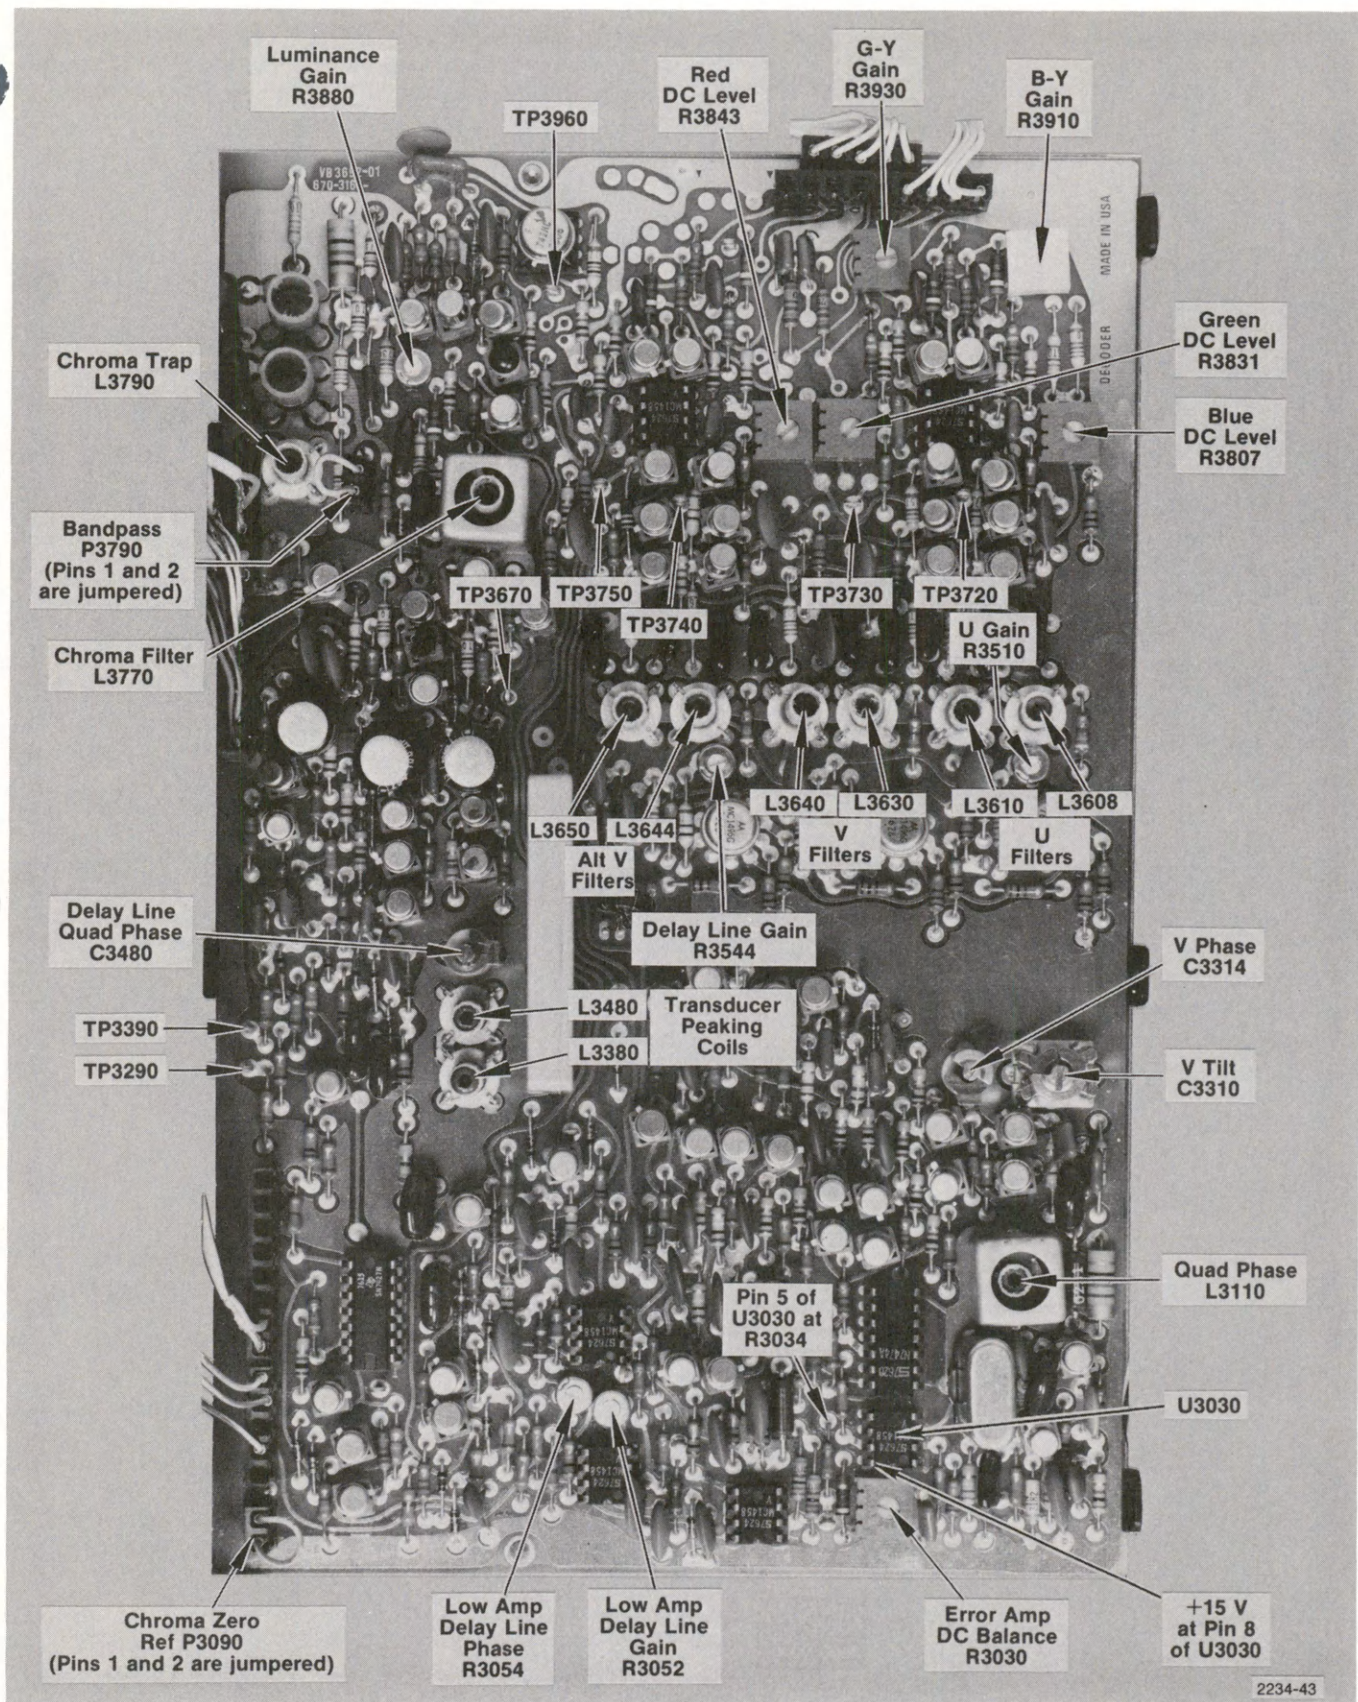

Fig. 6-27. 50 Hz or 60 Hz PAL Decoder board test point and component locations. (This board is mounted upside down in 655A and 655A-1 monitors.)
- a. Check that the crosshatch pattern is applied to the monitor. Dc couple the oscilloscope probe to TP3960 (see Fig. 6-27).
- b. Set the Bandpass jumper P3790 (see Fig. 6-27) to the Wideband position; pins 2 and 3 are jumpered.
- c. CHECK/ADJUST—Luminance Gain R3880 (see Fig. 6-27) so the waveform amplitude is 2 V from setup (black level) to the 100% white level.
- c. CHECK/ADJUST—Chroma Trap L3790 (see Fig. 6-27) for minimum chrominance amplitude on the luminance steps; typically 100 mV or less.
- b. Set the INPUT switch to A-B. Set Bandpass jumper R3790 (see Fig. 6-27) to the Wideband position (pins 2 and 3 are jumpered). Check that the oscilloscope probe is connected to TP3960.
- b. Ac couple the oscilloscope probe to TP3670 (see Fig. 6-27).
- b. Turn the monitor off and remove U3030 (see Fig. 6-27). Turn the monitor on and set the MODE switch to COLOR. Check that the STANDARD switch is set to PAL SIMPLE.
d. CHECK/ADJUST—Error amp DC Bal R3030 (see Fig. 6-27) for best overlay of color bars; that is, the color bar levels should be superimposed as shown in Fig. 6-28B.
h. Set the CHROMA control to PRESET. Turn the monitor off. Connect a 4.3 k Ω , 1/4 watt, resistor between pin 5 of U3030 and +15 V (see Fig. 6-27). Turn the monitor on. If the oscilloscope display is jittery, momentarily set the front-panel SYNC switch to EXT and then back to INT. The resistor disables the subcarrier phase switching to the demodulators.
c. CHECK/ADJUST—Red DC Level R3843 (see Fig. 6-27) for no dc shift of the signal black level with respect to the black reference pulse as the CONTRAST control is varied. Use Fig. 6-14 as a guide.
c. CHECK/ADJUST—Blue DC Level R3807 (see Fig. 6-27) for no dc shift of the signal black level with respect to the black reference pulse as the CONTRAST control is varied. Set the oscilloscope Input Coupling switch to AC. Adjust B-Y Gain R3910 for proper color bar decoding. Refer to Fig. 6-17A and the NOTE given in step 14c.
c. CHECK/ADJUST—Green DC Level R3831 (see Fig. 6-27) for no dc shift of the signal black level with respect to the black reference pulse as the CONTRAST control is varied.